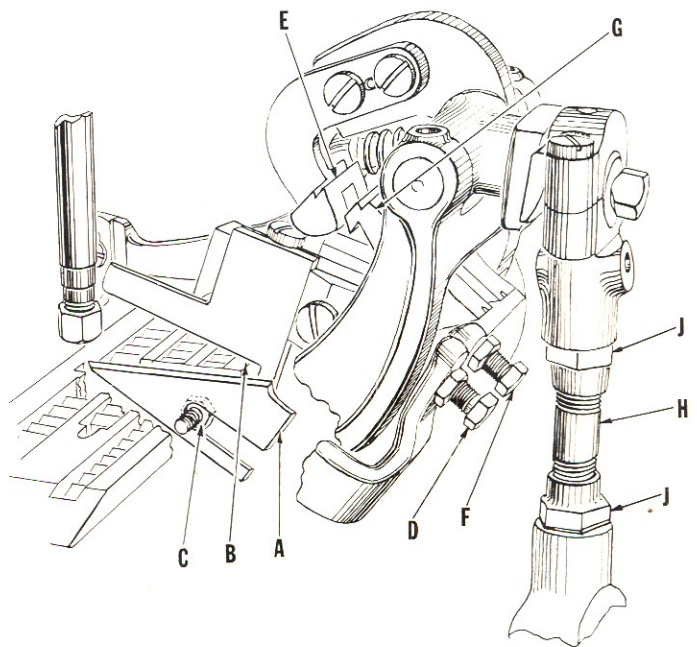
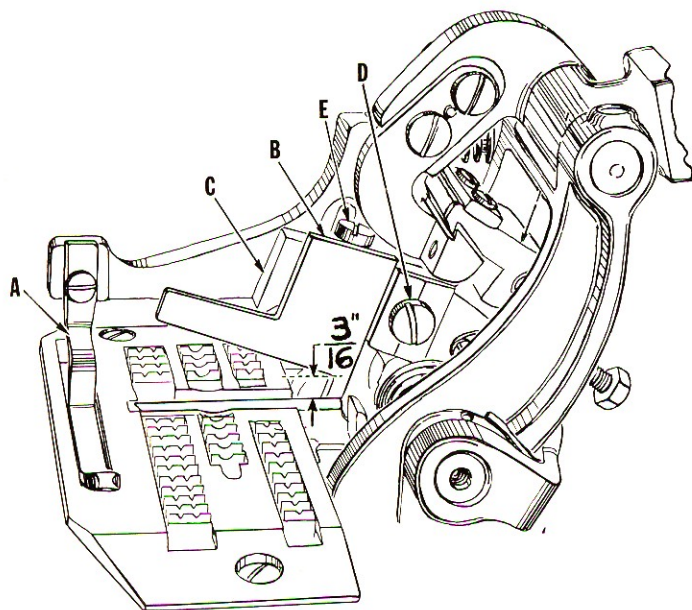
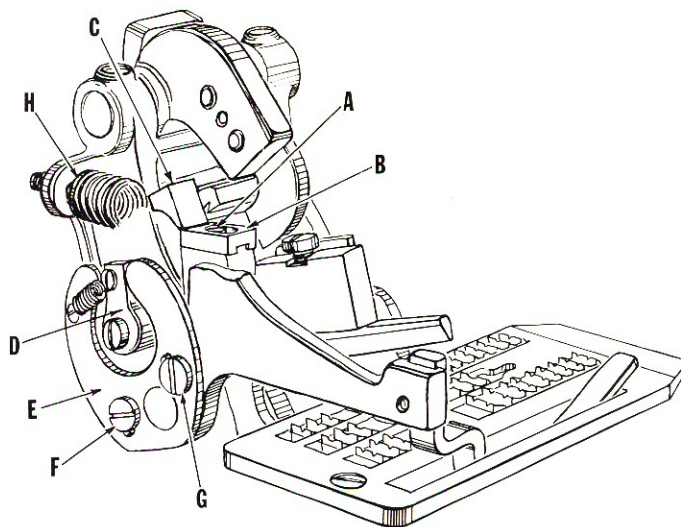

Fig. 8
Fig. 9
Fig. 10
With the throat plate temporarily laid in its seat, set the lower knife (A, Fig. 8) so that the cutting edge is even with the top of the throat plate (B) and tighten in this position with the hexagonal head screw (C). Reassemble needle guard, feed dog and throat plate.
Reassemble actuating shoe (A, Fig. 9). Loosen the hexagonal head adjusting screw (D, Fig. 8) and set, so that the bottom of the actuating shoe is even with the bottom of throat plate (B). Tighten locknut.
Insert upper knife (B, Fig. 9) in upper knife lever (C) and raise it as high as it will go. Tighten clamp screw (D), set stop screw (E) so that it contacts top of knife.
NOTE: As the knives (A, Fig. 8) and (B, Fig. 9) are resharpened, their adjustment is maintained by raising and lowering them in their holders.
Loosen screw (A, Fig. 10) and move shoe (B) to extreme left (or remove if desired). Turn handwheel until pawl (E, Fig. 8) is at its lowest position. Turn screw (F) until ratchet block (G) snaps over pawl (E), then add $\frac{1}{4}$ to $\frac{1}{2}$ turn more to insure adequate clearance under operating conditions. If screw is turned too far, the mechanism will not work.
If ratchet block and pawl will not engage, it may be necessary to adjust connecting rod (H, Fig. 8) by means of the locknuts (J). The correct center to center distance of the connecting rod should be $4 \frac{1}{16}$ inch. Individual tape clippers may require slightly different settings due to slight accumulation of tolerances in manufacture.
The trip dog operating cam (E, Fig. 10) can be retarded or advanced to vary the length of the tape at the start of the closure. Loosen screws (F and G) and turn the operating cam toward the handwheel end of the machine to shorten the distance and in the opposite direction to lengthen the distance. The actuating shoe tension spring (H) is adjustable for various weights of material.
Move shoe (B, Fig. 10) to right (or reassemble if it was removed) so that pawl (C) will rest on top of the extreme right end of shoe. Shoe should have polished end to the right and point of pawl may overlap slightly over outside to insure trigger action during operation of machine.
When actuating shoe (A, Fig. 9) is raised slightly, trip dog (D, Fig. 10) should allow pawl (C) to slide off shoe (B, Fig. 10) and knife should clip tape within $1 \frac{1}{2}$ turns or less of the handwheel. Make sure that the knives engage for their full length. When open there should be about $\frac{3}{16}$ " opening at the pilot end of the knives (See Figure 9).
The position of the tape cutter actuating shoe (A, Fig. 9) controls the length of tape extending beyond the material at the start of the closure.